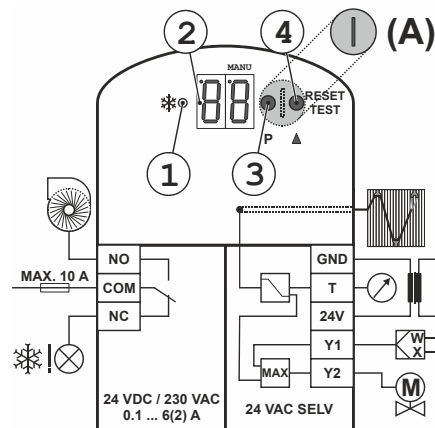

Fig. 3. Connection example
If any portion of the capillary tube is cooled to below the set temperature switch-point, the thermostat automatically switches itself off. Alternately, the thermostat can be adjusted to function as either a monitor or as a limiter (the latter with a manual reset button - see "4" in Fig. 3). The built-in relay contact allows the direct switching of loads of up to 250 VAC, 6(2) A.
All settings on the thermostat can be carried out using two pushbuttons (see "3" and "4" in Fig. 3) accessible after unscrewing a small cover screw (see "A" in Fig. 3). It is not necessary to remove the power supply before carrying out adjustments. The FTSE allows both the switch-point and the operating mode to be selected. The switch-point can be set to be between  $1$  and  $10\text{ }^{\circ}\text{C}$ . One has the choice of an operating mode with or without restart lock-out. When selecting the operating mode with restart lock-out, after the set switch-point is reached, the thermostat is locked until manually reset by pushbutton (see "4" in Fig. 3) (however, this is possible only after the temperature has dropped by the switching differential of approx.  $2\text{ K}$ ). One can also reset the device by removing it from the power supply.